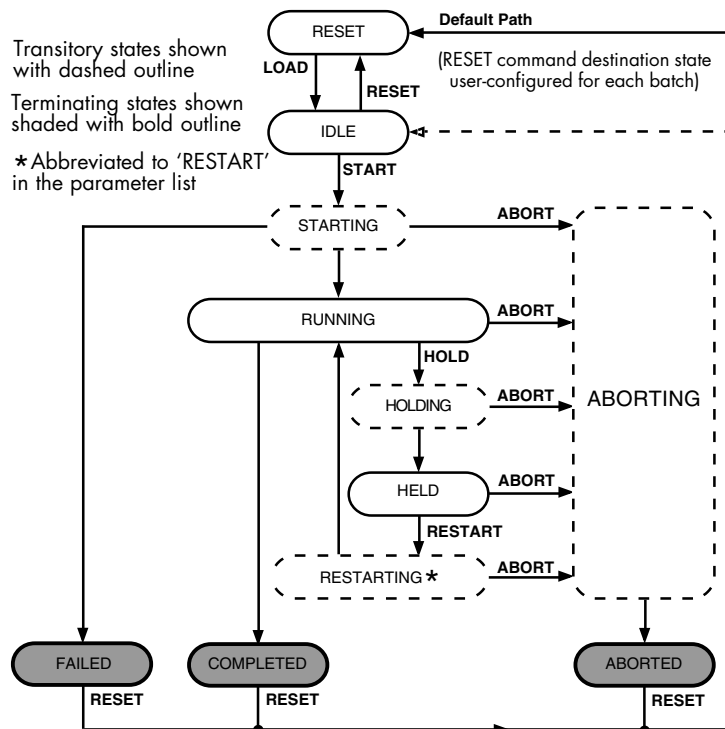

Figure 6-4 Batch engine state diagram
In the COMPLETE state, RESET is the only active button — see Figure 6-4
Figure 6-4 shows the instrument batch engine state diagram. The different states are shown in boxes linked by labelled arrowed lines. In most cases you can get from one state to another by pressing the button identified by the relevant label. E.g. the only way to get from RESET to IDLE is to press the LOAD button. In the RESET state, no other button is active.
- 1 From the COMPLETE state, press **RESET** to get the batch engine into the RESET state. This is the only possibility, see Figure 6-4. The **Batch Status** screen appears.
- 3 In the **Batch Start** screen you have two possibilities, **START** and **RESET**. **SAVE AS** does not affect the batch state. Figure 6-4 shows where each of these leads. Press **START** to move to the RUNNING state.
***Note** You can see from Figure 6-4 that pressing RESET from any of the terminating states (FAILED, COMPLETE, and ABORTED) moves the batch state either to RESET (the default) or to IDLE (if you configure it so). An advantage of the IDLE state is that you don't have to reload the batch to run it again. But the advantage of returning to RESET is that all data is re-read from disk, ensuring that any online modifications are discarded, that may be important. How to configure this option is explained in Chapter 7.*